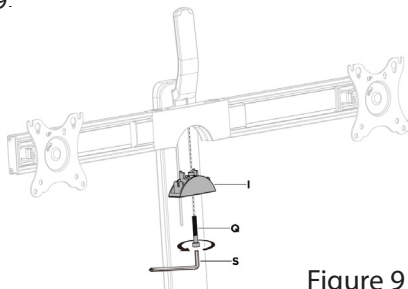

Figure 9
9. Slide the **Crossbar Mount, Lower** into its receptacle on the **Crossbar Mount, Upper**. Then, using the **M6x40mm Screw** and the **5mm Hex Key with Screwdriver**, fasten the **Crossbar Mount, Lower** to the **Crossbar Mount, Upper** by carefully driving the **M6x40mm Screw** through the mounting hole on the **Crossbar Mount, Lower** and into the mounting point on the **Crossbar Mount, Upper**. As shown in Figure 9.